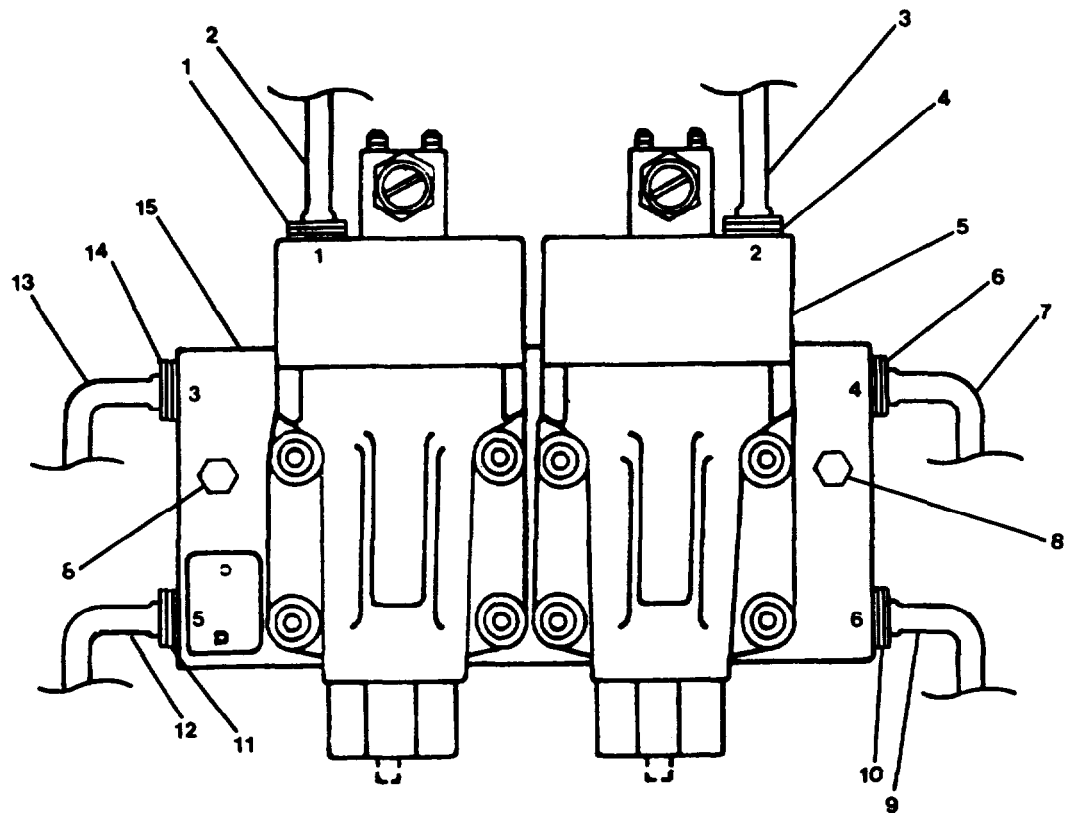
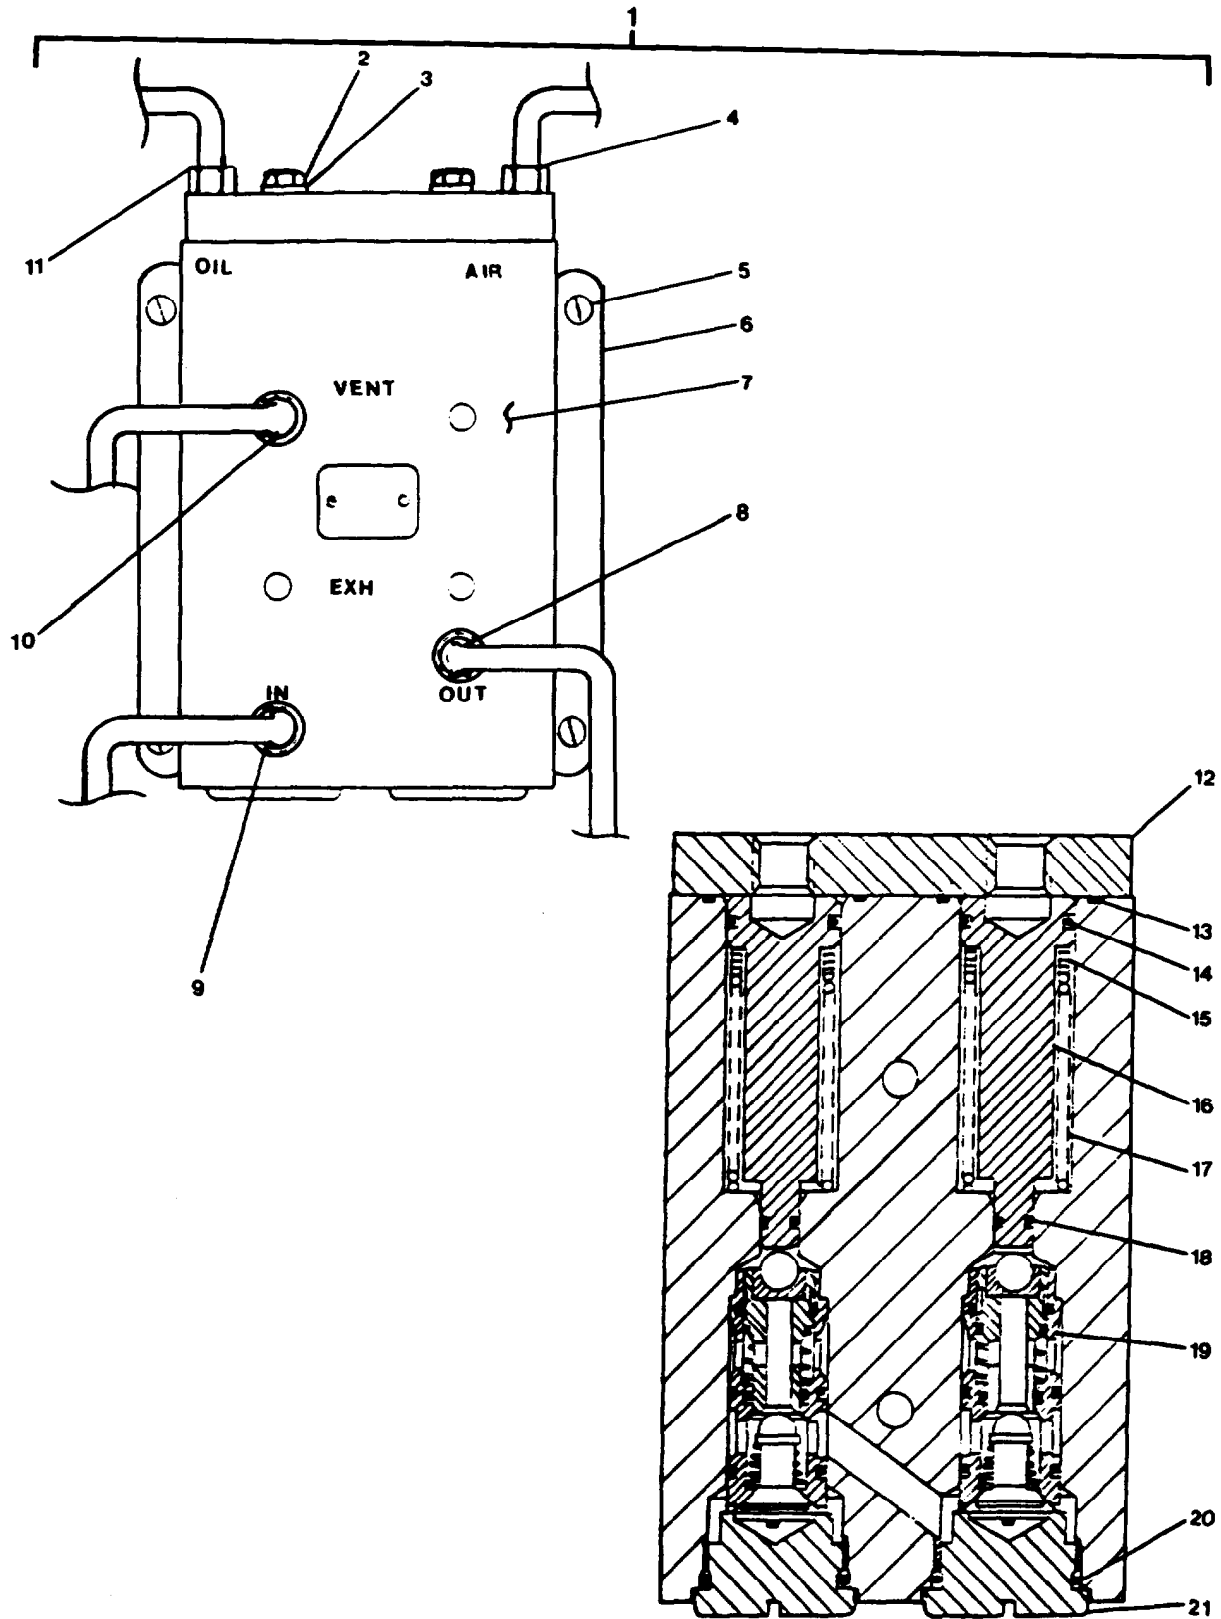
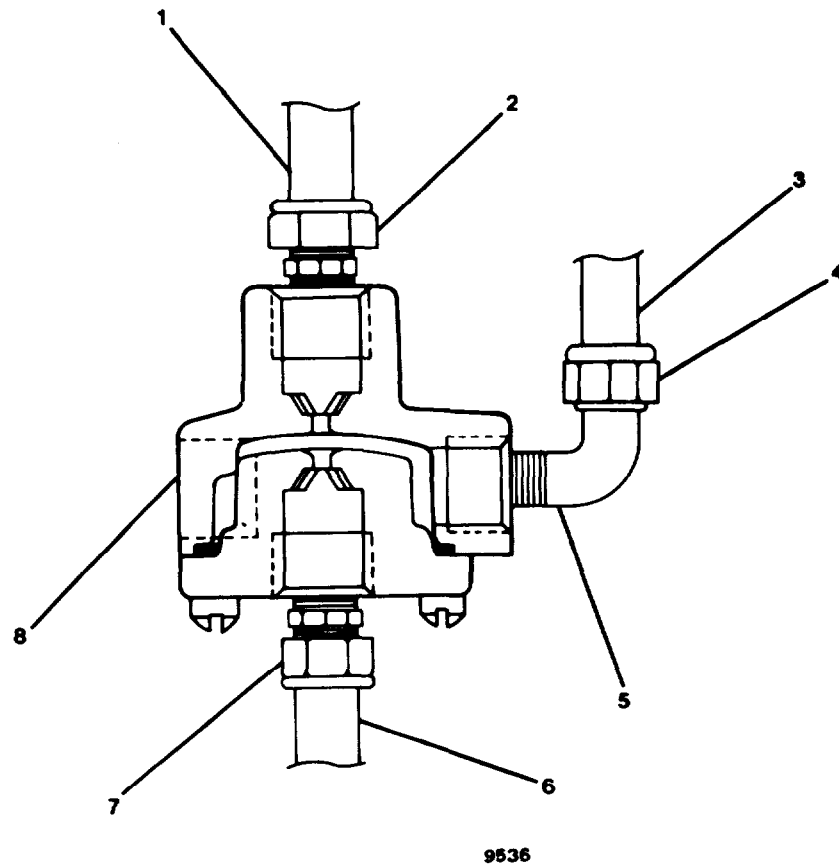

FIGURE 2-102. Gearmate Control Panel Three-Way Valve.
FIGURE 2-103. Throttle Interlock.
FIGURE 2-104. Shuttle Valve. Removal.
- a. Remove Gearmate Control Panel and Three-Way Valve. (FIGURE 2-102).
- (2) Cap or plug connections to prevent contamination.
- (3) Remove machine bolts (8) from manifold plates (15).
- (4) Remove three-way valves (5).
- b. Remove Throttle Interlock . (FIGURE 2-103)
c. Remove Shuttle Valves. (FIGURE 2-104)**WARNING**
DISASSEMBLY (FIGURE 2-103)
- a. Repair at this level of maintenance is by replacement of gearmate control panel, three-way valve (5, FIGURE 2-102), shuttle valve (8, FIGURE 2-104), seal (13, FIGURE 2-103), preformed packing (14), helical compression spring (17), preformed packing (18), preformed packing (20), and poppet valve (19).
ASSEMBLY (FIGURE 2-103)
- a. Replace Throttle Interlock. (FIGURE 2-103).
- (1) Position throttle interlock for mounting and remove caps or plugs.
- (2) Install throttle interlock (7) on mounting bracket (6). Secure with mounting screws (5).
- (3) Apply teflon tape to all connections.
- (4) Connect copper tubing at connections (4, 8, 9, 10, and 11). Remove tags.
- b. Replace Gearmate Control Panel and Three-Way Valves. (FIGURE 2-102).
- (1) Position three-way valves (5) for mounting and remove caps or plugs.
- (2) Install three-way valves (5) to manifold plate (15) and secure with machine bolts (8).
- (3) Apply teflon tape to connections.
- (4) Connect copper tubing (2, 3, 7, 9, 12, and 13) at connections (1, 4, 6, 10, 11, and 14). Remove tags.
- (5) Restore air pressure to gearmate control panel. Remove tags.